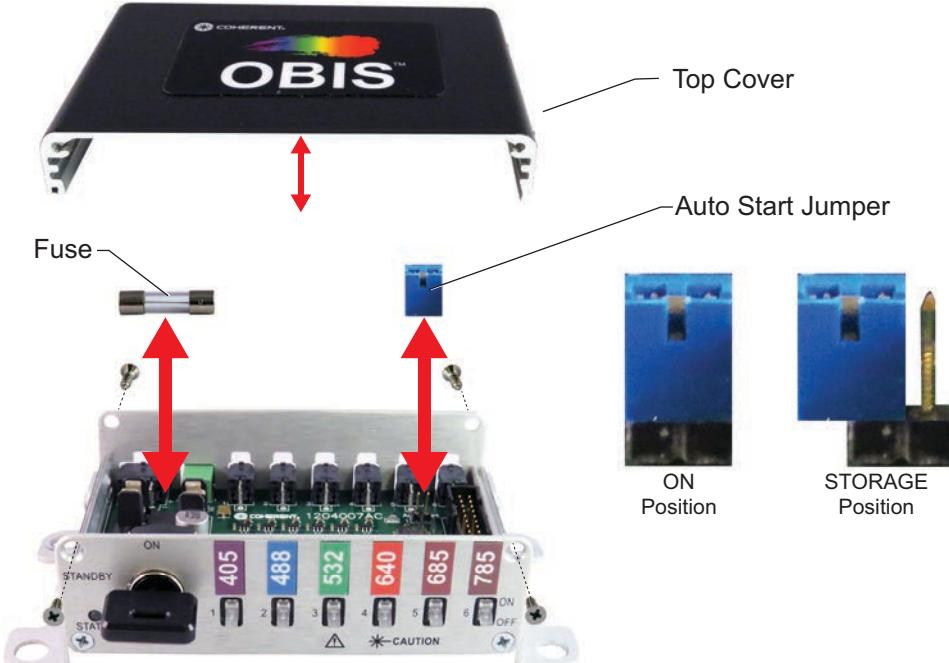

Figure 10-11. OBIS 6-Laser Remote – Exploded View
The Auto Start jumper is inside the OBIS 6-Laser Remote. To access the jumper, remove the top four screws on the front and back covers and then remove the top cover (see Figure 10-11).
- [] Remove the OBIS 6-Laser Remote cover and check the fuse. If the fuse needs replacement, use a 10 amp, 250V, 5 x 20 mm, slow-blow fuse (Catalog #218010P). Refer to Figure 10-11 (p. 10-7) for location of the fuse and the cover screws.